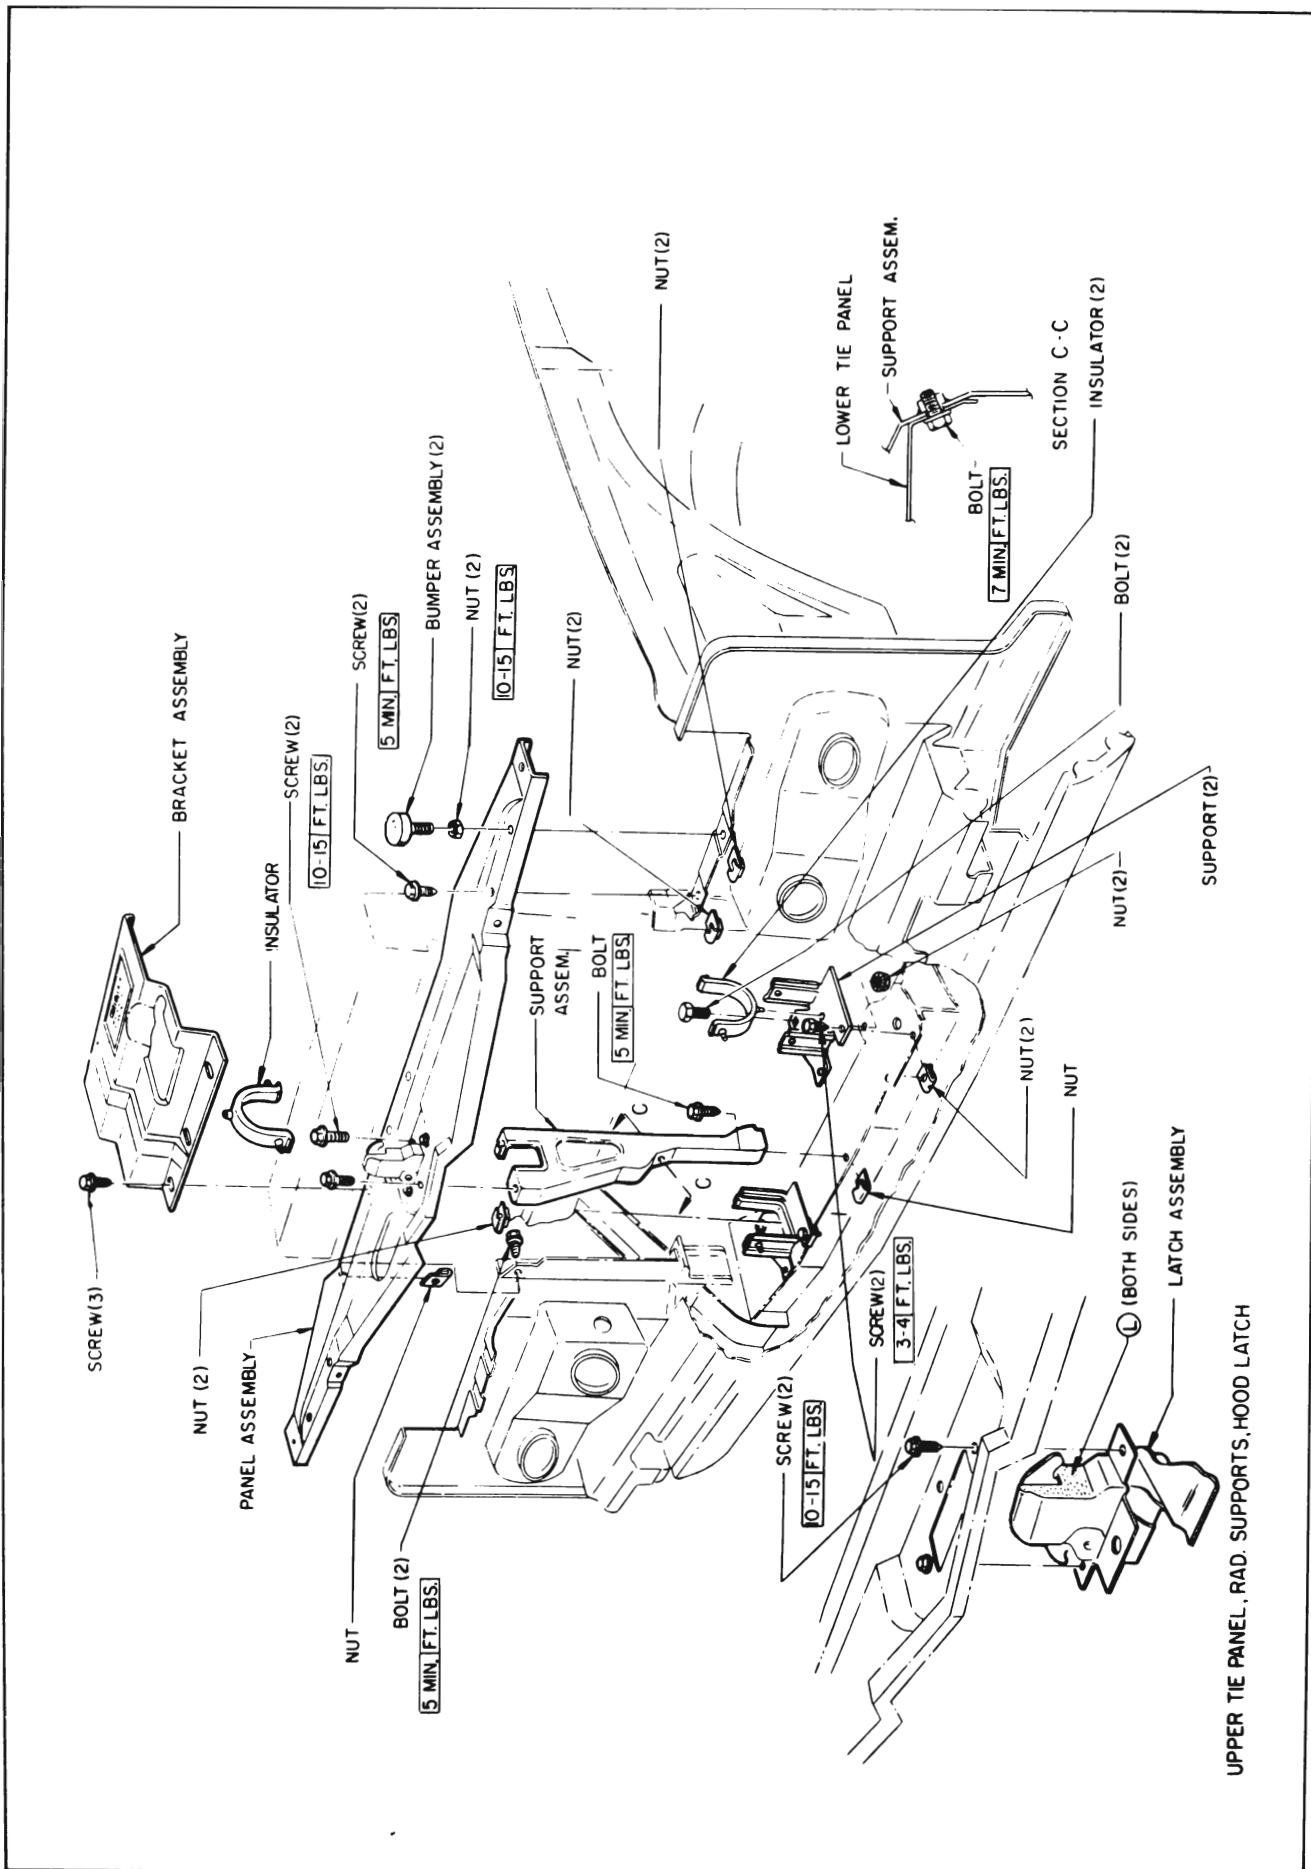

Figure 12-12—Upper Tie Bar, Radiator Supports and Hood Latch Installation
3. Front Height. This is determined by two adjustable bumpers. (See Figure 12-12.) However, the front of the hood may not contact these bumpers unless the hood latch is correctly adjusted as described in step "4".
- b. Loosen four bolts attaching latch to panel assembly. (See Figure 12-12.)